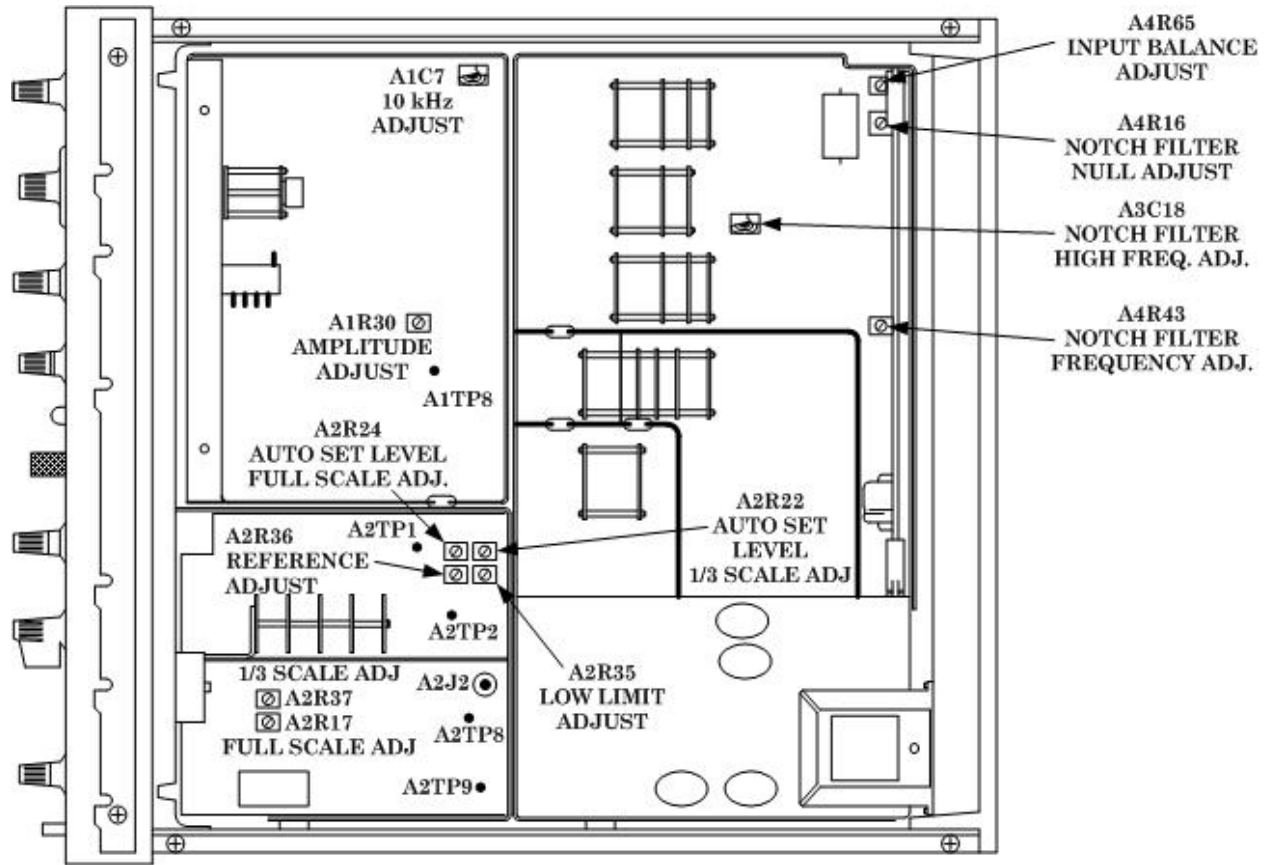

Figure 1. Test instrument - bottom view.
- (1) Set **INPUT RANGE** switch to **3 V**.
- (2) Adjust calibrator output to 3 V and 1 kHz.
- (3) Adjust A2R17 FULL SCALE ADJ (fig. 1) for TI meter indication of 3 V (R).
- (4) Adjust calibrator output for 1 V.
- (5) Adjust A2R37 1/3 SCALE ADJ (fig. 1) for a TI meter indication of 1 V on 3 V range (R).
- (6) Repeat (2) through (5) above for best in-tolerance condition.
- (7) Connect multimeter to A2TP2 (fig. 1) and chassis ground.
- (8) Adjust calibrator output to 3.162 V and 1 kHz.
- (9) Adjust A2R36 REFERENCE ADJUST (fig. 1) for a multimeter reading of 3.162 V dc (R).
- (10) Reduce calibrator output to 0.94 V ac.
- (11) Adjust A2R35 LOW LIMIT ADJUST (fig. 1) until **INPUT RANGE** low limit indicator (front panel) just lights (R).
- (12) Increase calibrator output to 0.95 V ac. Low limit indicator should turn off. If not, repeat (7) through (11) above.
- (13) Set **LINE** switch to **OFF**.
- (14) Disconnect cable connector from A2J2 (fig. 1). Place cable in a place that will not short cable to chassis.
- (15) Connect a jumper wire, using test lead between A2TP1 and A2TP8 (fig. 1).
- (16) Connect multimeter between A2TP9 (+) (fig. 1) and chassis ground.
- (17) Adjust output of calibrator to 3.0 V and 1 kHz.
- (18) Set **LINE** switch to **ON**.
- (19) Adjust A2R24 AUTO SET LEVEL FULL SCALE ADJ (fig. 1) for an indication of 3.162 V dc on multimeter (R).
- (20) Reduce calibrator output to 1.0 V ac.
- (21) Adjust A2R22 AUTO SET LEVEL 1/3 SCALE ADJ (fig. 1) for a multimeter indication of 3.1612 V dc (R).
A2R22 AUTO SET LEVEL 1/3 SCALE ADJ (fig. 1) and A2R24 AUTO SET LEVEL FULL SCALE ADJ. (fig. 1) adjustments interact. Repeat (15) through (21) above until no further adjustment is necessary.
- (22) Set **LINE** switch to **OFF**.
- (23) Reconnect TI cable connector to A2J2 (fig. 1) and disconnect jumper cable from A2TP1 and A2TP8 (fig. 1).
- (24) Set **LINE** switch to **ON**.
- (1) Connect multimeter between test points A1TP8 (fig. 1) and shield of assembly A1 (fig. 1), using leads.
- (2) Position controls as listed in (a) through (c) below:
- (3) Adjust A1R30 **AMPLITUDE ADJUST** (fig. 1) for multimeter indication between -0.3 and -0.5 V dc (R).
- (4) Change **FREQUENCY** multiplier control to each range and verify that voltage level at A1TP8 (fig. 1) remains negative.
- (5) Repeat **a** (1) through (5) above.